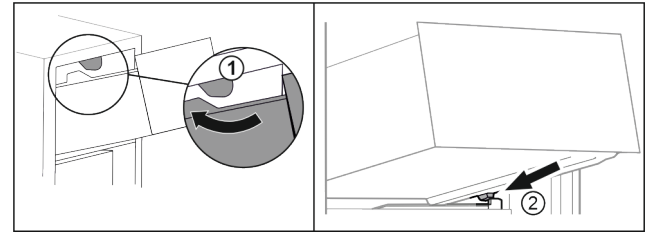

Fig. 73
- ▶ Guide drawer around the upper stoppers. Fig. 73 (1)
- ▶ Place drawer at an angle behind the lower stoppers onto moulded rib. Fig. 73 (2)